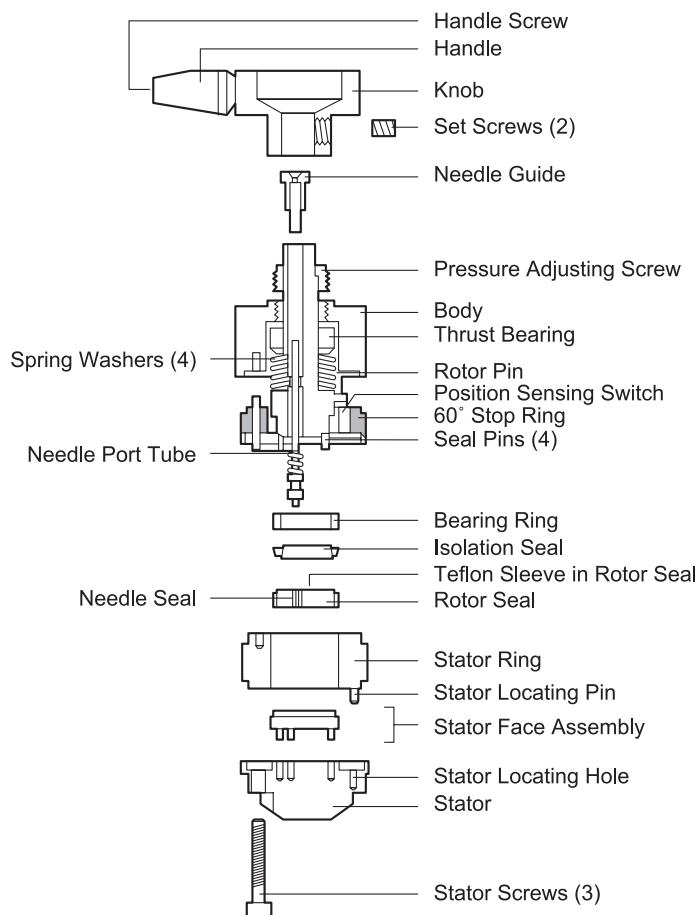

Figure 4-19 Rheodyne 7725i Injector: Exploded View
Refer to Figure 4-19 for each procedure.
1. Locate the pressure adjusting screw on the shaft of the injector (see Figure 4-19). The pressure adjustment is factory set so that spring force between the valve rotor and stator is sufficient to hold 6000 psi (40.8 MPa).
To replace the rotor seal (refer to Figure 4-19):